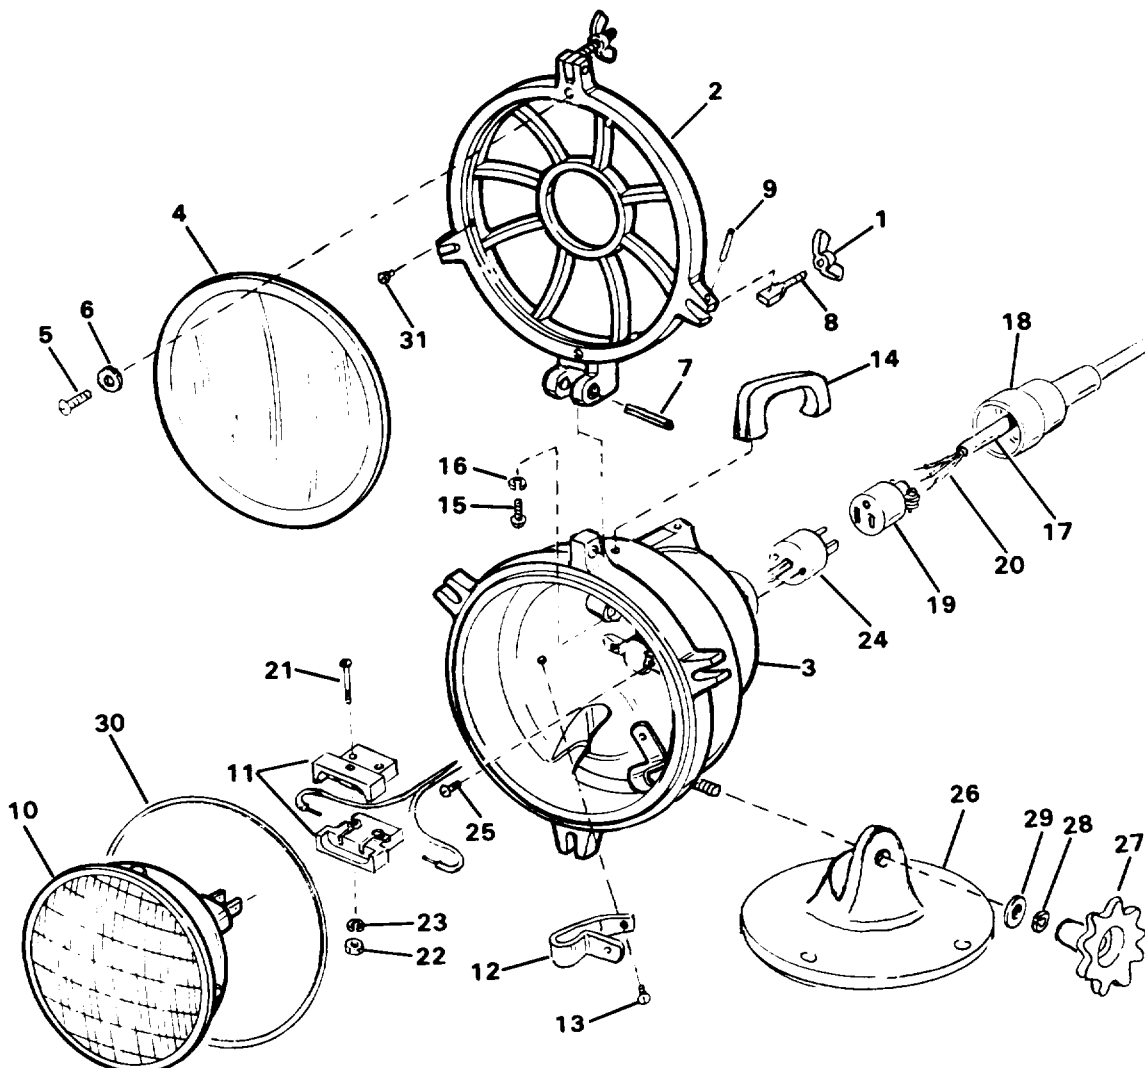

Figure 4-103. Heat Lamps
- a. Loosen thumbscrews (1, Figure 4-103) and swing lens guard (2) away from heat lamp body (3).
- b. Remove lens (4) by removing screws (5) and washers (6).
- c. Remove lens guard (2) by tapping out pivot pin (7).
- d. Remove thumbscrew bolts (8) from lens guard (2) by tapping out pivot pins (9).
- e. Remove bulb (10) by pulling straight out and disconnecting it from bulb socket (11).
- f. Remove bulb retaining clips (12) by removing screws (13).
- g. Remove handle (14) by removing screws (15) and lockwashers (16).
- h. Remove cable (17) from heat lamp by cutting off boot (18) and removing socket (19) with three wires (20).
- i. Remove three wires (20) from socket (19).
- j. Remove bulb socket (11) by removing screws (21), nuts (22) and washers (23).
- k. Remove cable socket (24) by removing screws (25).